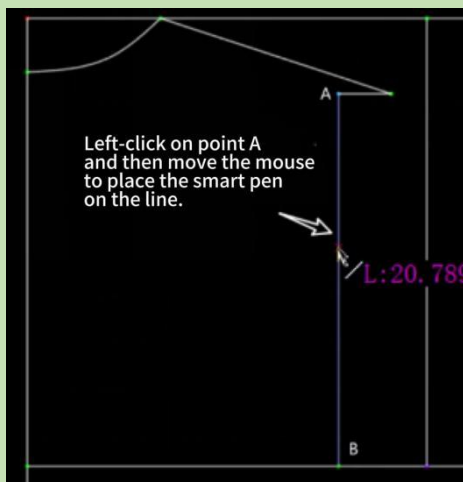

Figure4-37
- (1)click the starting point A. ( Figure4-37 )
- (2)Place the cursor on the line and press the number on the keyboard ( Figure4-37 ) 。